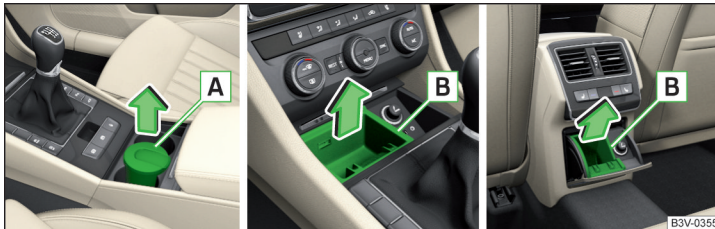

Fig. 109 Remove front ashtray / remove front ashtray insert / remove rear ashtray insert
» Fig. 109.
► To **remove**, open the insert of the respective ashtray, hold the insert in the area **B** and remove in the direction of the arrow» Fig. 109.